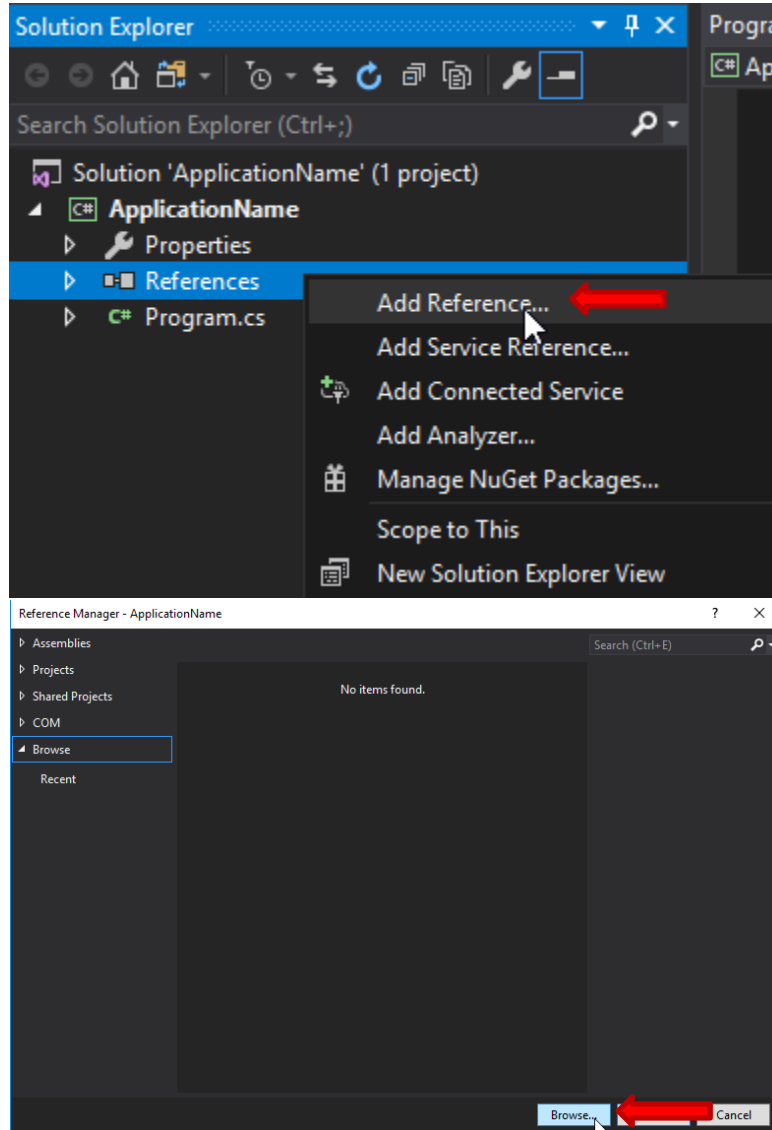

Figure 64 - VS2017 Add DLL to Project
10) Right click on References in the Solution Explorer view and select “Add Reference” per Figure 64 - VS2017